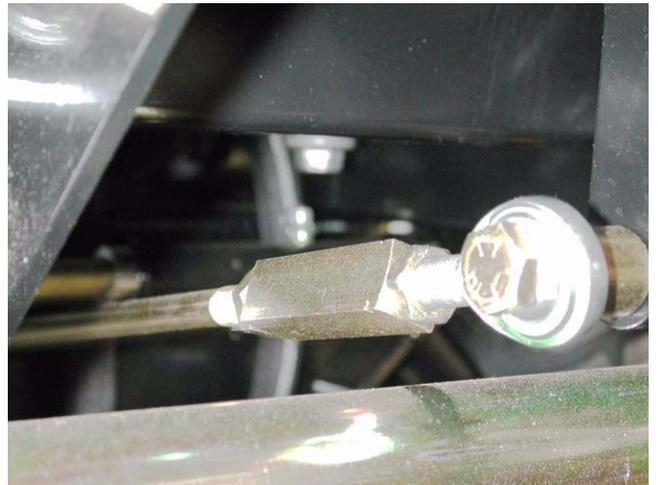

Figure 9.5
- 9.5. More easily adjustable hydro control link. See Figure 9.5.